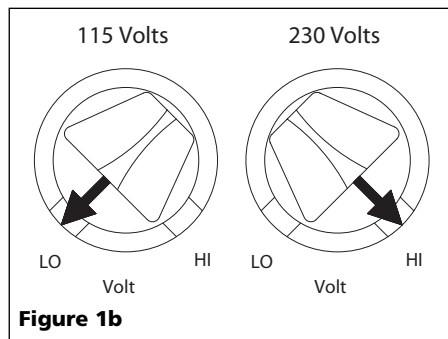

Figure 1b
4. Rotate selector knob to correct voltage setting (Figure 1b).